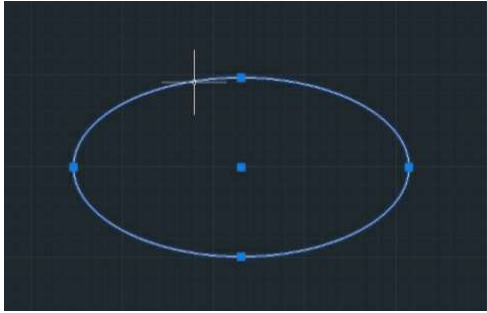
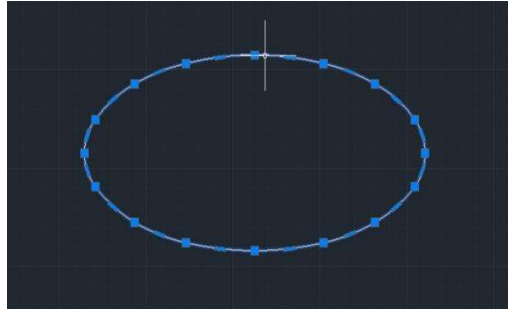

Figure 4: PELLIPSE= 0
Figure 5: PELLIPSE= 1
**PELLIPSE** Enter a new value for PELLIPSE <0>: 0 (as Figure 4) or 1 (as Figure 5).